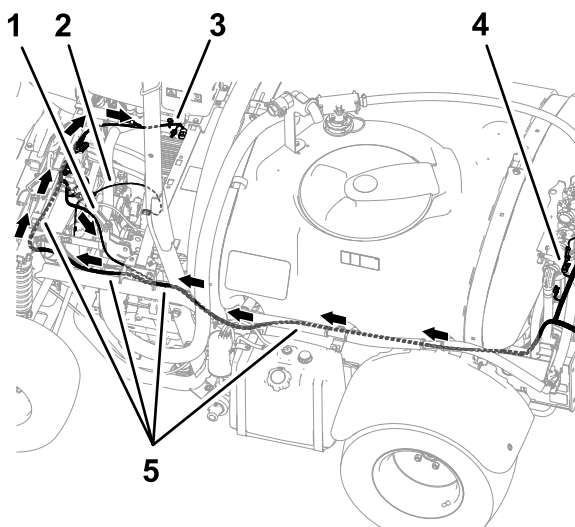
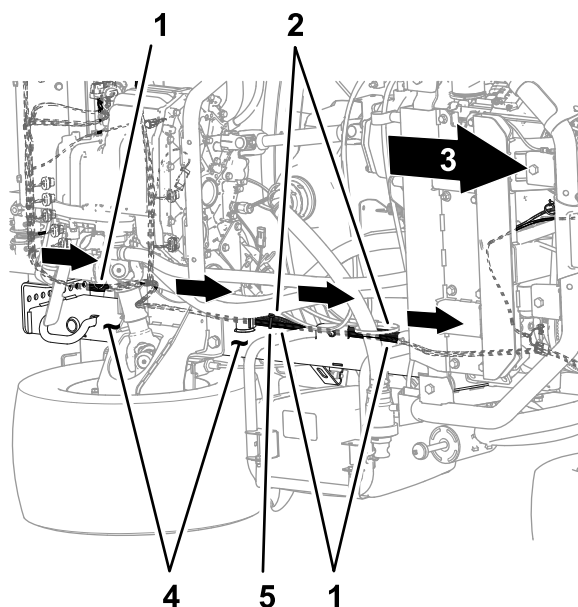
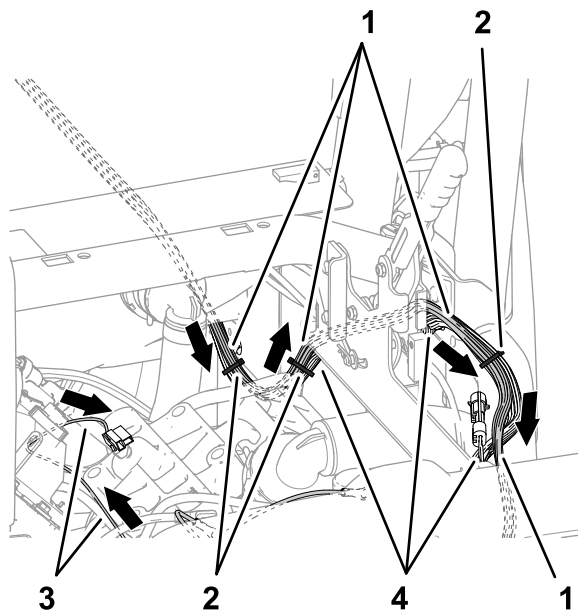
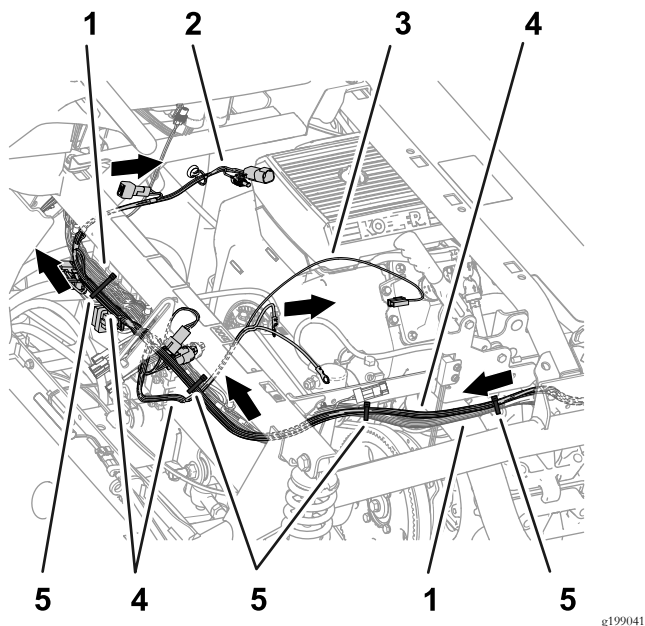

Figure 79
Figure 80
Figure 81
Figure 82
3. Route the 84 cm (33 inch), 60 cm (23-1/2 inch), and 66 cm (26 inch) wire-harness branches of the kit wire harness forward along the left frame channel (Figure 79 and Figure 80).
4. Route the 84 cm (33 inch), 60 cm (23-1/2 inch), and 66 cm (26 inch) wire-harness branches of the kit wire harness along the machine wire harness, outboard of the parking-brake assembly (Figure 81).
5. Route the 84 cm (33 inch), 60 cm (23-1/2 inch), and 66 cm (26 inch) wire-harness branches of the kit wire harness across the shock-support tube as shown in Figure 82.
6. Secure the kit wire harness to the machine wire harness as shown in Figure 80, Figure 81, and Figure 82.